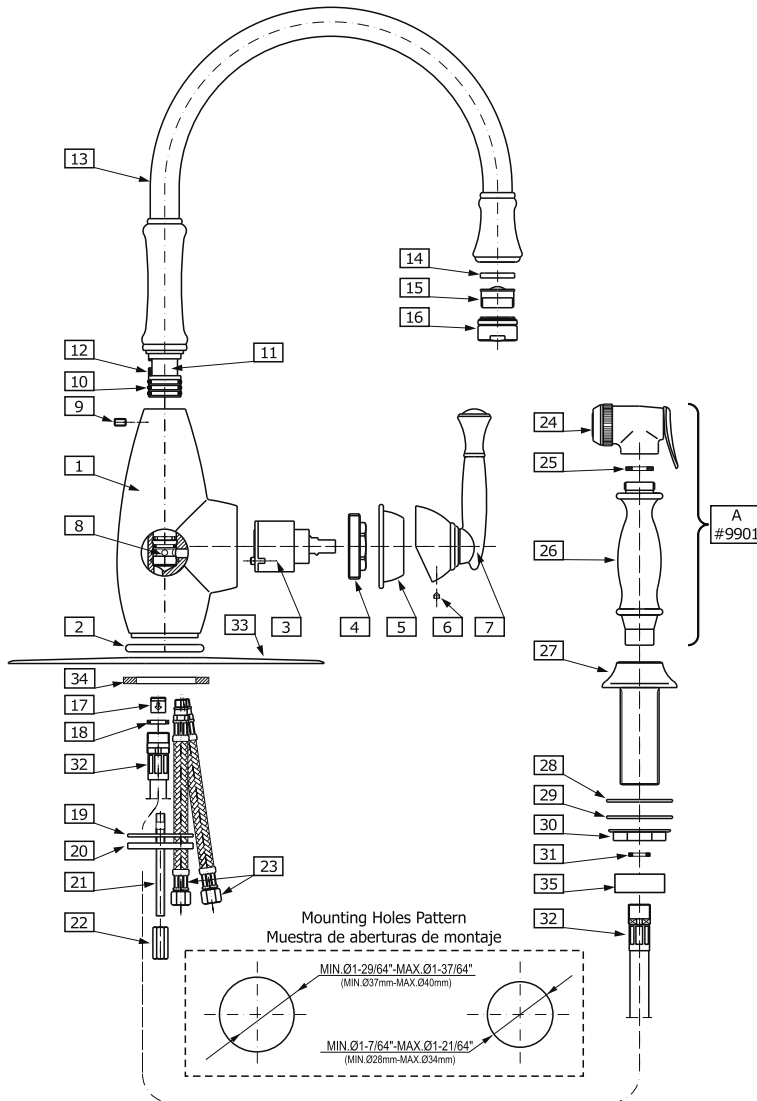

FIG. 1a
For sinks with existing 8" holes install the deck plate # 9912 (item 33 fig. 1a & 1b)
- ➔ Place deck plate (33) with plate washer (34) on sink top with hole aligned to sink hole.